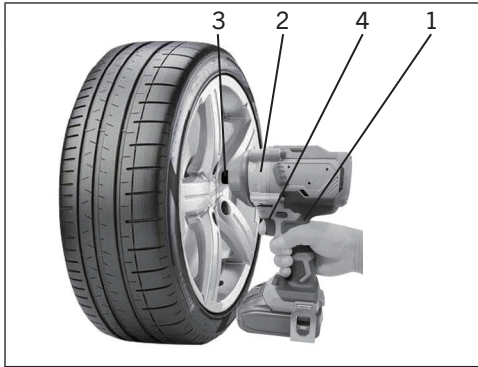

FIG. 8
4. Grasp the impact wrench handle (1) with one hand and the front housing of the impact wrench (2) with the other hand (Fig. 8).
5. Place impact socket (3) onto the wheel nut.